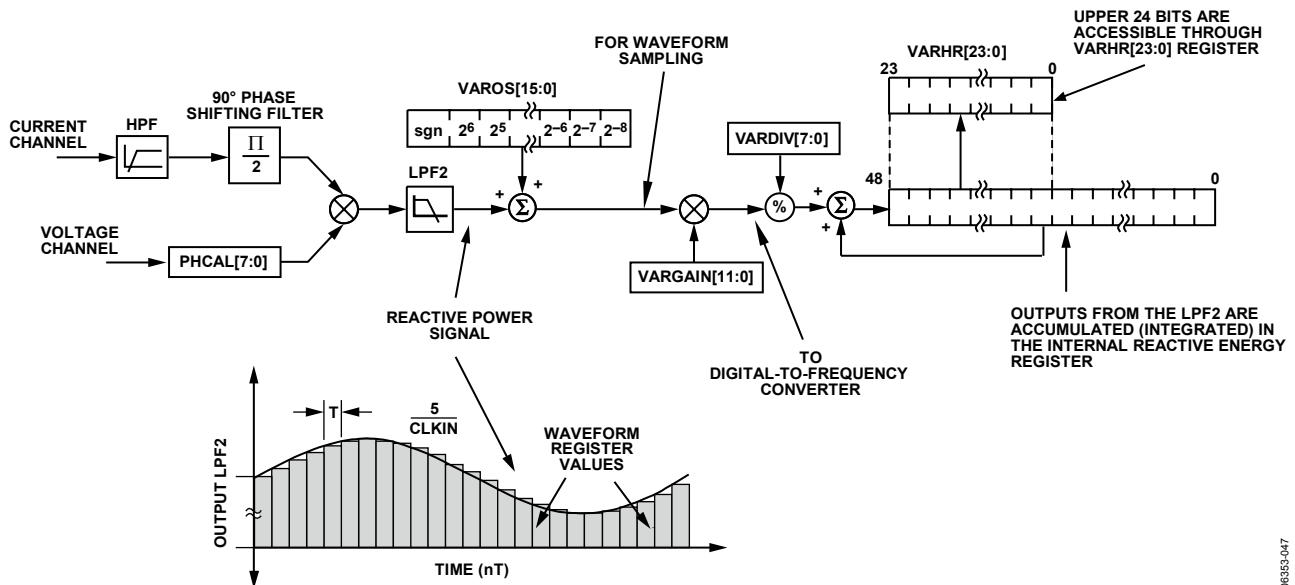

Figure 71. Reactive Energy Calculation
The instantaneous reactive power signal $q(t)$ is generated by multiplying the voltage and current channels. In this case, the phase of the current channel is shifted by 90° . The dc component of the instantaneous reactive power signal is then extracted by a low-pass filter to obtain the reactive power information (see Figure 71).
Figure 71 shows the signal processing chain for the ADE7569/ADE7169 reactive power calculation. As explained in the Reactive Power Calculation for the ADE7569/ADE7169 section, the reactive power is calculated by applying a low-pass filter to the instantaneous reactive power signal. Note that, when reading the waveform samples from the output of LPF2, the gain of the reactive energy can be adjusted by using the multiplier and by writing a twos complement, 12-bit word to the VAR gain register (VARGAIN[11:0]). Equation 25 shows how the gain adjustment is related to the contents of the watt gain register.
The ADE7569/ADE7169 also incorporate a reactive power offset register (VAROS[15:0]). This is a signed, twos complement, 16-bit register that can be used to remove offsets in the reactive power calculation (see Figure 71). An offset can exist in the reactive power calculation due to crosstalk between channels on the PCB or in the IC itself. The offset calibration allows the contents of the reactive power register to be maintained at 0 when no power is being consumed.
The discrete time sample period (T) for the accumulation register in the ADE7569/ADE7169 is $1.22 \mu\text{s}$ (5/MCLK). As well as calculating the energy, this integration removes any sinusoidal components that may be in the active power signal. Figure 71 shows this discrete time integration or accumulation. The reactive power signal in the waveform register is continuously added to the internal reactive energy register.
As shown in Figure 71, the reactive power signal is accumulated in an internal 49-bit signed register. The reactive power signal can be read from the waveform register by setting the WAVMODE register (0x0D) and setting the WFSM bit in the Interrupt Enable 3 SFR (MIRQENH, 0xDB). Like the current and voltage channel waveform sampling modes, the waveform data is available at sample rates of 25.6 kSPS, 12.8 kSPS, 6.4 kSPS, or 3.2 kSPS.